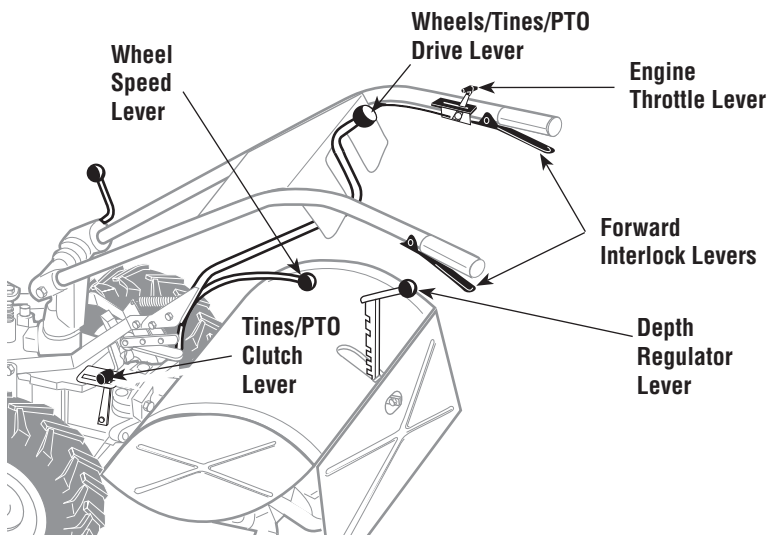

Figure 4-22: PTO Power Unit controls.
4. Place the Wheels/Tines/PTO Drive Lever into NEUTRAL (Figure 4-22).
5. Place Tines/PTO Clutch Lever in DISENGAGE (Figure 4-22).
6. Place Wheel Speed Lever into FREE WHEEL (Figure 4-22).
1. Move the Tines/PTO Clutch Lever (Figure 4-22) to DISENGAGE.
2. Move the Wheel Speed Lever (Figure 4-22) to either SLOW or FAST position. To do this, roll the PTO Power Unit while shifting lever until wheels engage.
1. Move Tines/PTO Clutch Lever (Figure 4-22) into ENGAGE.
2. To apply power to PTO-driven attachments, move Wheels/Tines/PTO Lever (Figure 4-22) down to FORWARD position (*do not use REVERSE with stationary attachments*).